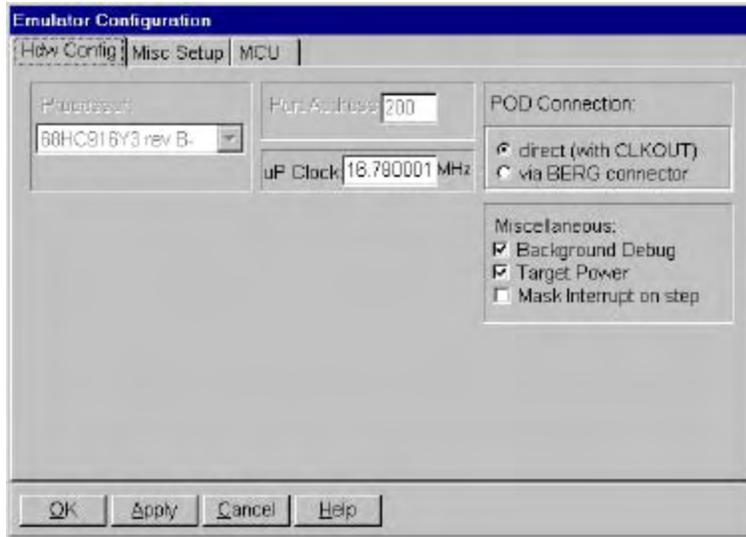

Figure 82. Emulator Hardware Configuration
1. Ensure that there is a jumper inserted connecting BNK0 (pin 2, close to outer edge of the board) to /CS0 (pin one (1), away from the outer edge of the board opposite BNK0). Make sure that the 16BIT jumper 5 position is also in. (This step is checking that /CSBOOT will select pod memory.)
2. From the main menu click **Config, Emulator**. The **Emulator Configuration** menu should appear with the **Hdw Config** tab already selected (Figure 82).